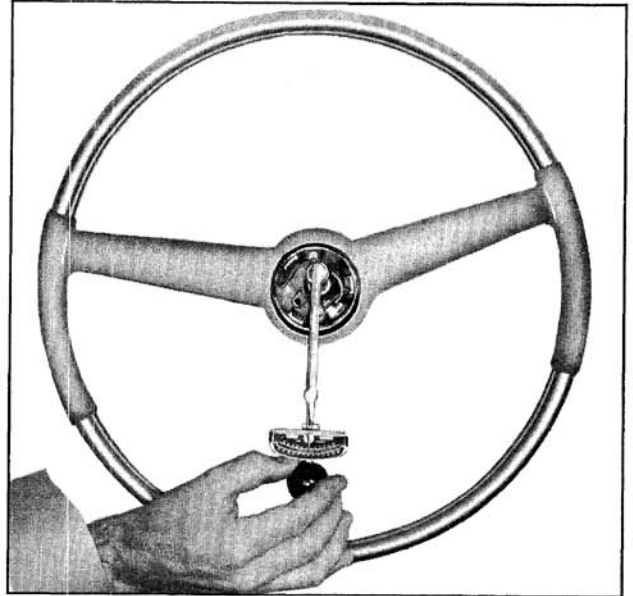

Fig. 8-38 Checking Worm Bearing Pre-Load
5. Check the combined ball and thrust bearing pre-load with an inch-pound torque wrench on the steering shaft nut by rotating through the center of travel. (Fig. 8-38) Note the highest reading.